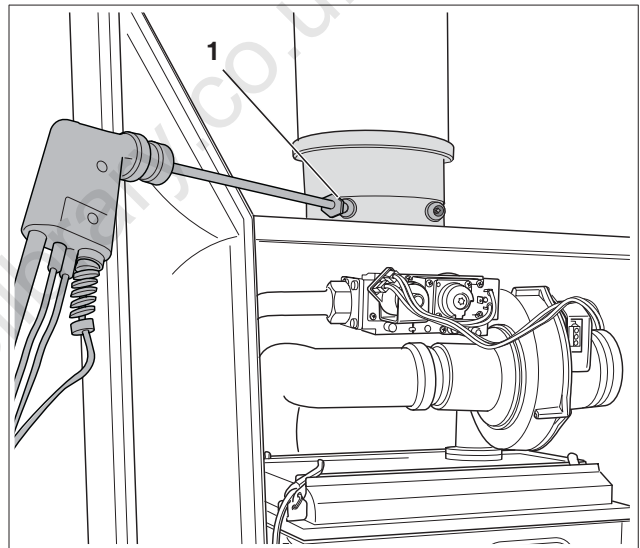

fig. 99 Measuring the gas supply pressure
- Remove the cover from the flue gas measuring point (fig. 99, **item 1**).
- Connect the flue gas analyser to the left-hand measuring point (fig. 99).
- Measure the carbon monoxide content at the flue gas measuring point (fig. 99).
- Remove the flue gas analyser and fit the cover back onto the flue gas measuring point (fig. 99, **item 1**).